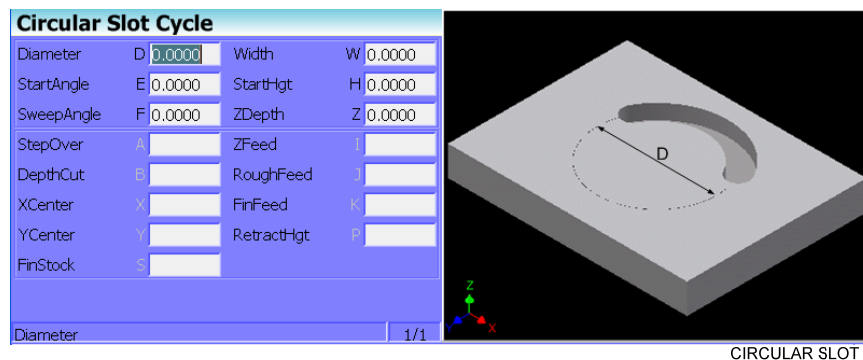

Figure 4-19, Circular Slot Graphic Menu
2. Highlight **Circular Slot** and press **ENTER** to display the Circular Slot Cycle Graphic Menu. Refer to **Figure 4-19**.